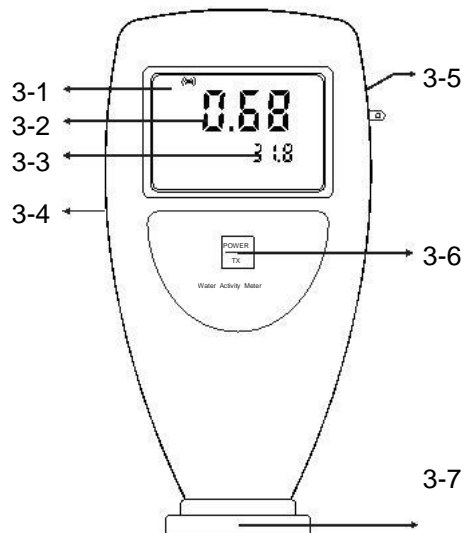

Fig. 1
6.2 Slide the Battery Cover (Fig.1,) away from the instrument and remove the batteries.